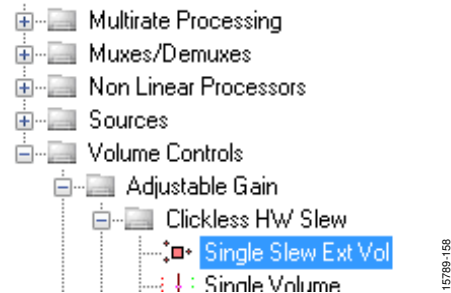

Figure 56. Single Slew Ext Vol Block Selection
- a. From the **Volume Controls > Adjustable Gain > Clickless HW Slew** folder, click **Single Slew Ext Vol** (see Figure 56) and drag it into the project space to the right of the toolbox.